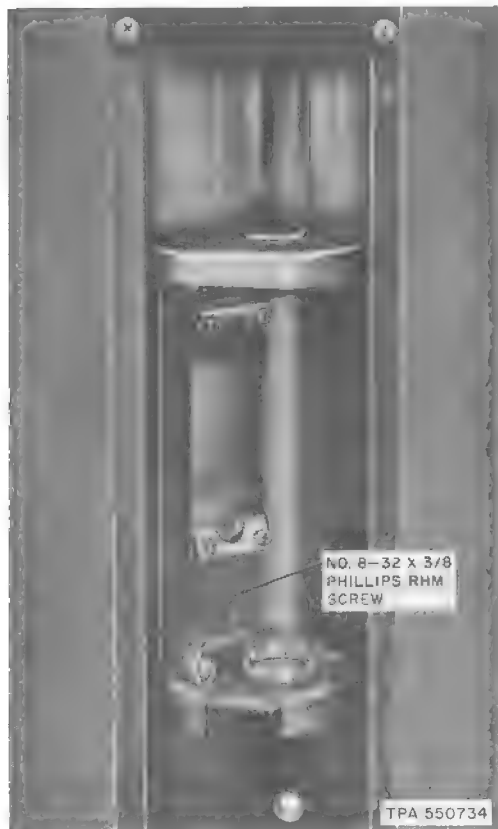

Fig. 21—Installation of Circuit Breaker Box in Lower Backboard
- 3.26** Install the KS-19426, List 17 circuit breaker box (if applicable) per Fig. 21. Have local electrician install circuit breakers.